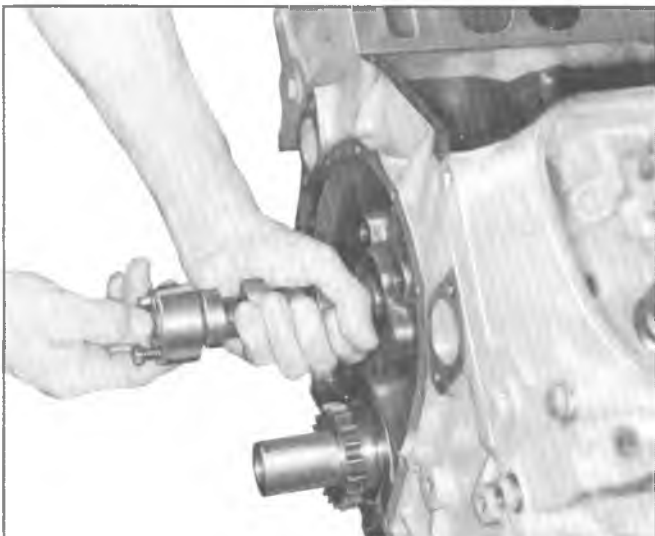

Fig. 19V—Removing Camshaft
6. Install two 5/16" x 18 x 4" bolts in camshaft bolt holes then remove camshaft (fig. 19V).